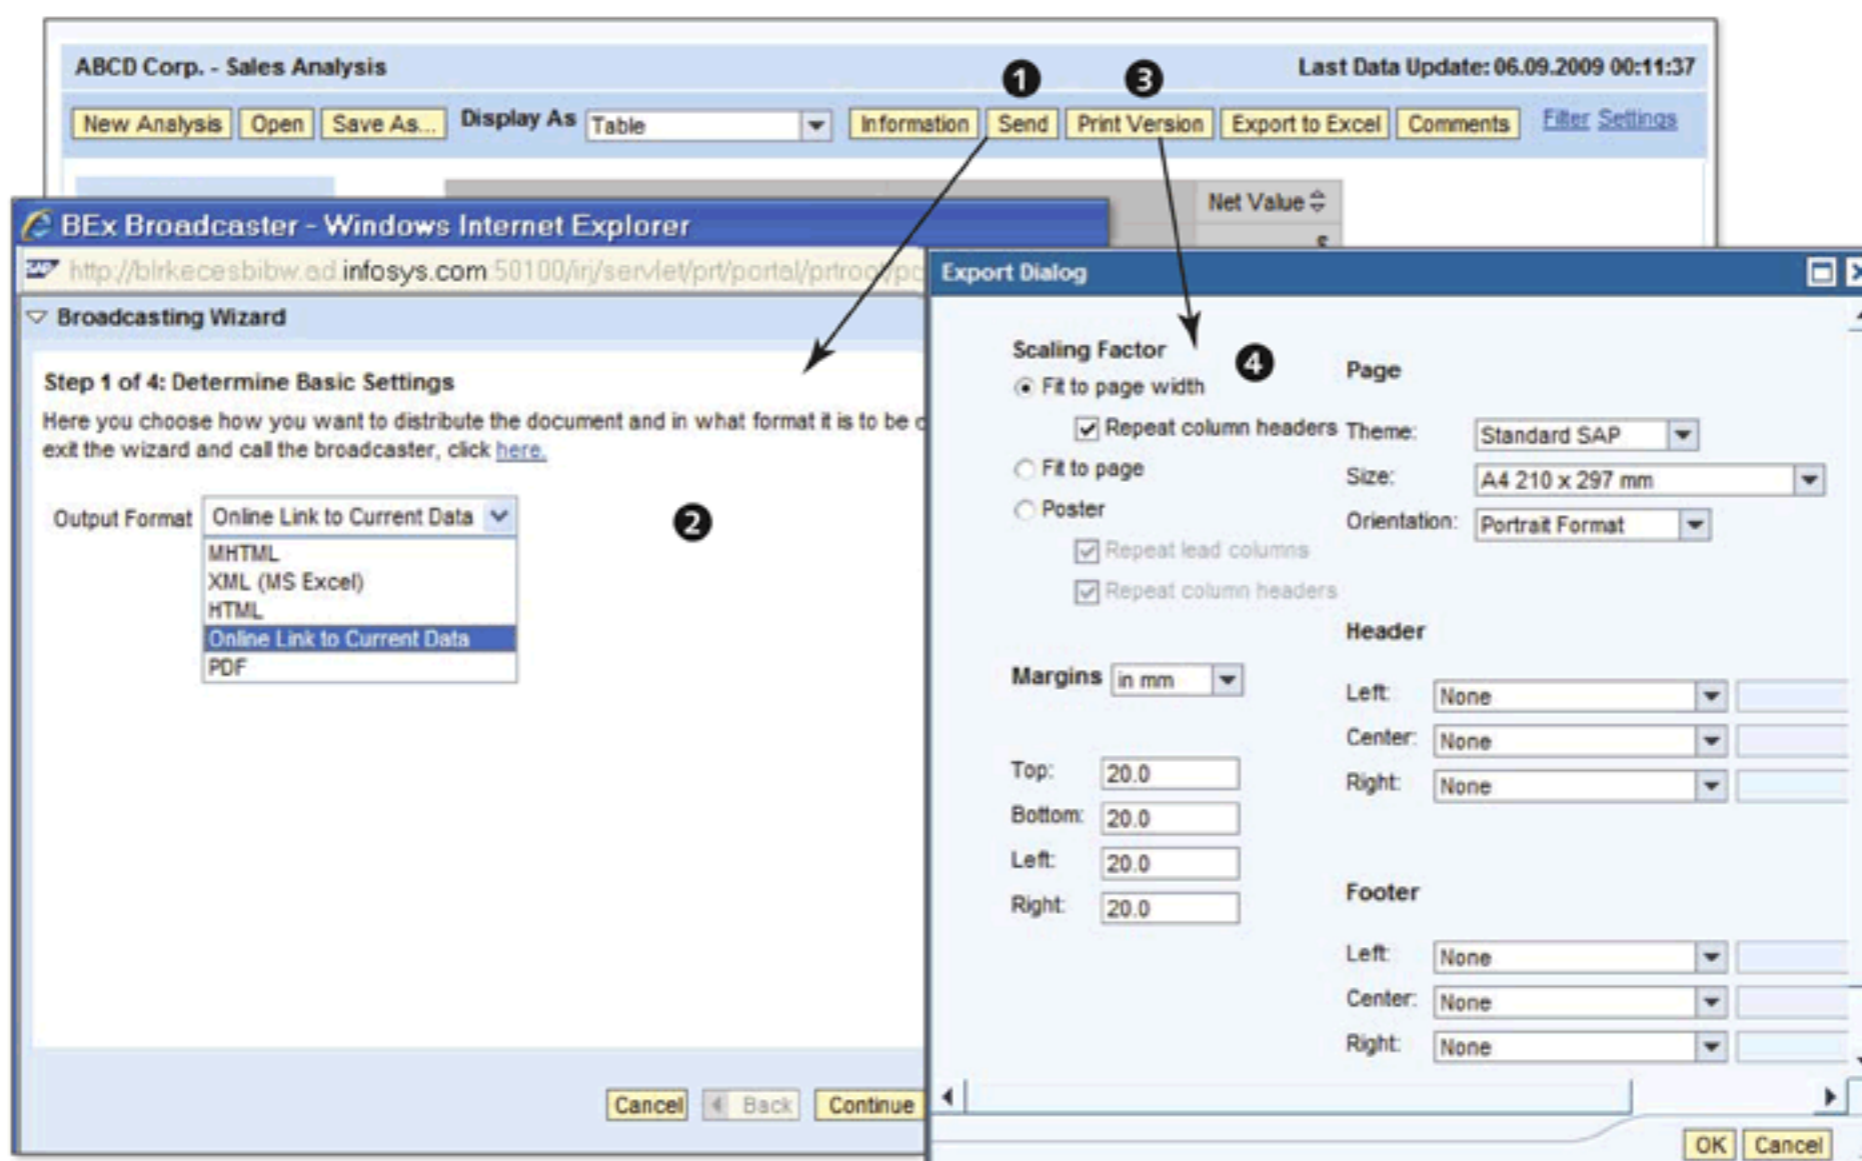

Figure 10.46 BEx Web Analyzer Function: Send and Print Version
If the person performing analysis wants to share the results with another person, he can use the SEND button (❶ of Figure 10.46) to distribute this analysis. The SEND function actually calls the Broadcasting Wizard from BEx Broadcaster, which allows you to create these distribution settings. The data from the current analysis can be distributed in different output formats, as shown in ❷ of Figure 10.46. (Details about BEx Broadcaster and information broadcasting are discussed in Section 10.9).
This function (❸ of Figure 10.46) allows you to prepare the analysis for printing. You can make print-specific settings, add headers/footers, and generate a PDF that can be printed (❹).